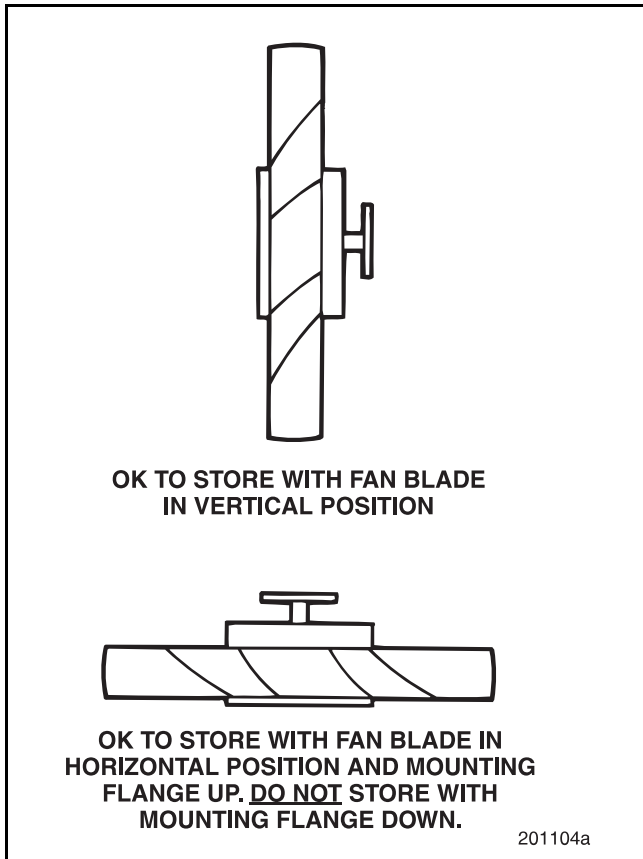

Figure 4-5 — Viscous Fan Drive Assembly Storage
Refer to Figure 4-5.
3. If the fan assembly is equipped with a viscous drive, be sure to store the assembly either horizontally, with the fan face down (hub flange up), or vertically, as shown in Figure 4-5. This will prevent fluid leaking from the assembly.